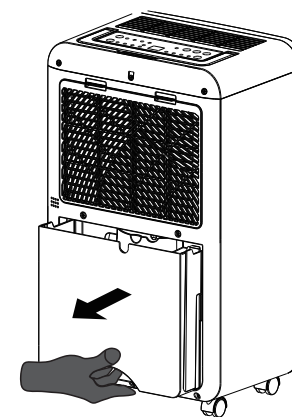

Fig. 1
1. Grasp the handle of the water tank, gently pull the water tank out, and then you can easily take out the water tank Fig.1
- 1.Remove the water tank from the back of the machine Fig.1